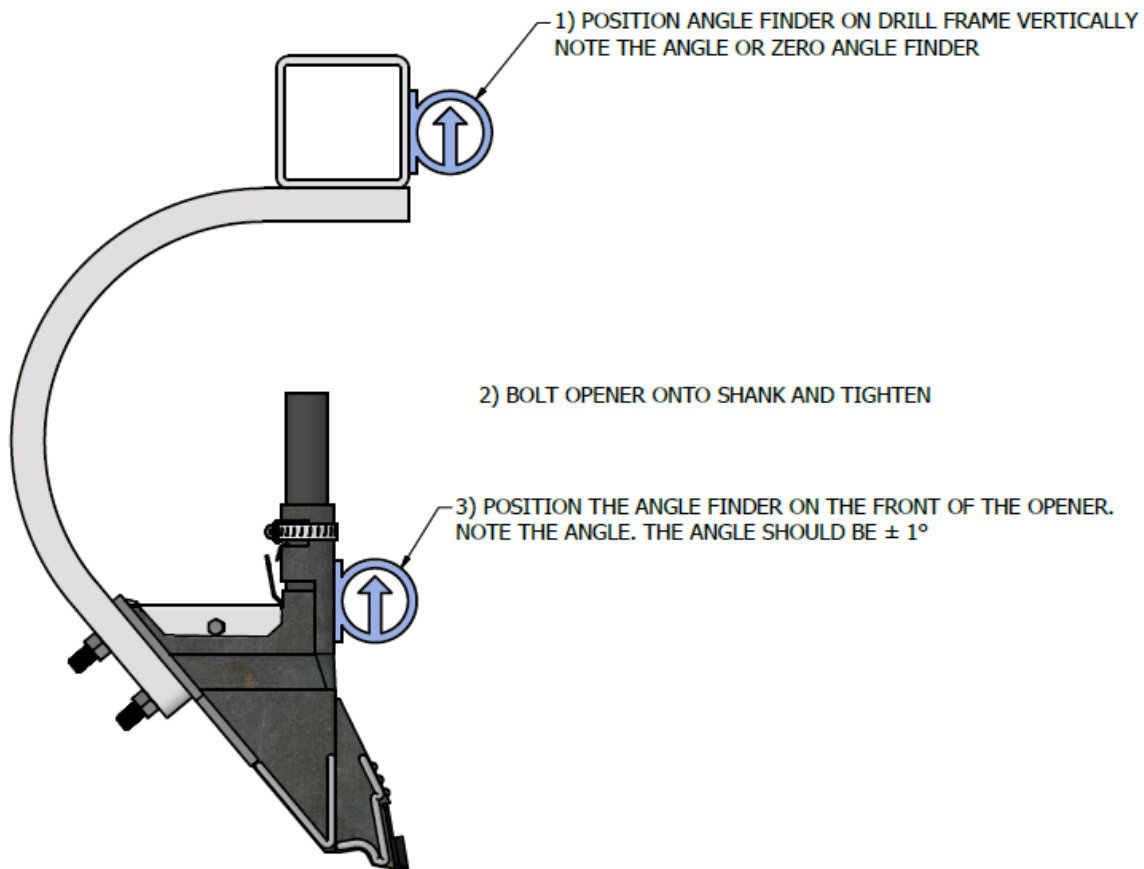
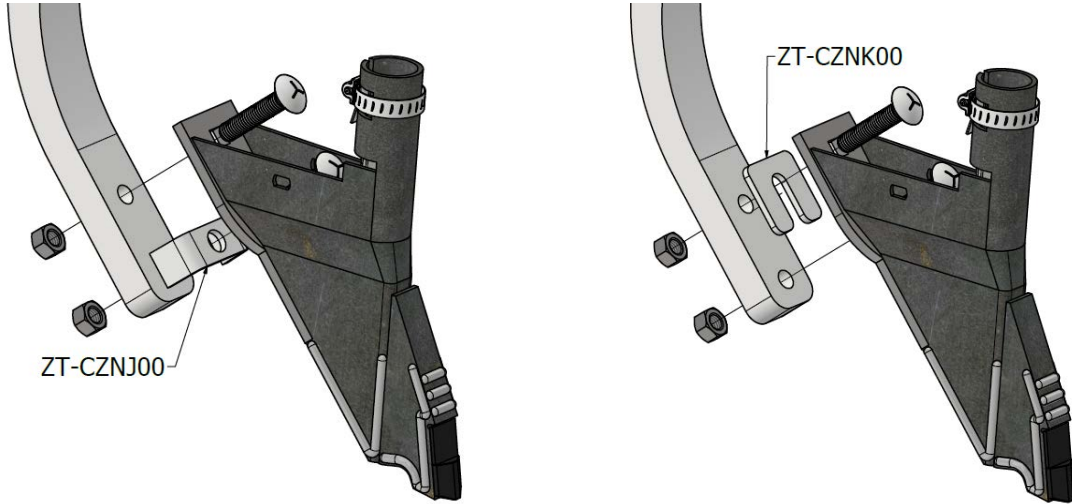

Figure 1: Angle Measurement Procedure
Figure 2: Shims to correct opener angle
Install the rest of the openers shimmed as shown in Figure 1. Sight down the ranks of your drill and adjust openers that appear to be out of position with the properly installed openers. Shims can be purchased from Atom-Jet to correct the opener angle. Figure 2 on the next page shows which shims are needed and their part numbers.
- 1) Bolt openers to shank using the supplied carriage bolts, washers, and nuts, remembering to check the shank angle as described in Figure 1. Install openers with the wings oriented to the center of the drill.